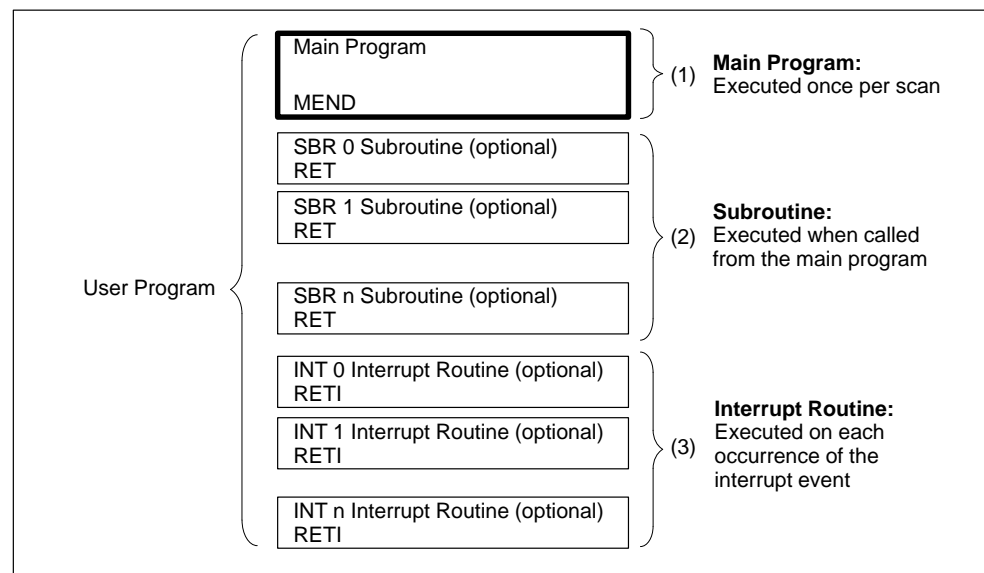

Figure 6-6 Program Structure for an S7-200 CPU
Programs for an S7-200 CPU are constructed from three basic elements: the main program, subroutines (optional), and interrupt routines (optional). As shown in Figure 6-6, an S7-200 program is structured into the following organizational elements:
- **Main program:** The main body of the program is where you place the instructions that control your application. The instructions in the main program are executed sequentially, once per scan of the CPU. To terminate the main program, use an Unconditional End coil in ladder or a Main Program End instruction (MEND) in STL. See (1) in Figure 6-6.
- **Subroutines:** These optional elements of your program are executed only when called from the main program. Place the subroutines after the end of the main program (following the Unconditional End coil in ladder logic or the MEND instruction in STL). Use a Return (RET) instruction to terminate each subroutine. See (2) in Figure 6-6.
- **Interrupt routines:** These optional elements of your program are executed on each occurrence of the interrupt event. Place the interrupt routines after the end of the main program (following the Unconditional End coil in ladder logic or the MEND instruction in STL). Use a Return From Interrupt (RETI) instruction to terminate each interrupt routine. See (3) in Figure 6-6.